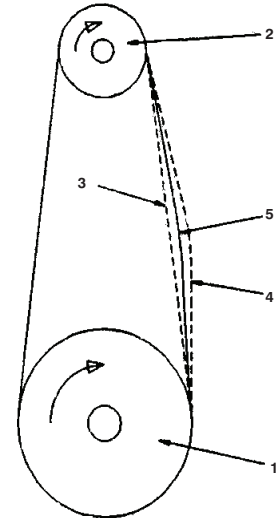

Figure 8-2 – V-Belt Drive
2. Start the drive and continue to tension the V-belt(s) until only a slight bow on the slack side of the drive appears while operating under load conditions as shown in **Figure 8-2**.